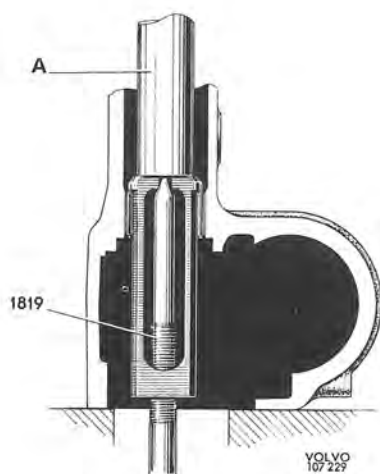
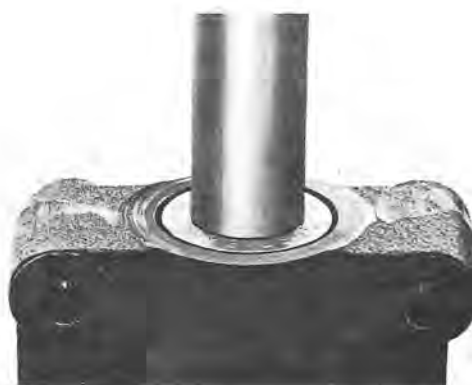

Fig. 6-67. Removing needle bearing
Fig. 6-68. Installing needle bearing
3. Check the needle bearings in the housing and cover for damage. Replace bearings if necessary. For removal use tool 1819 (Fig. 6-67) and for pressing in use drift 2995 and handle 1801 (Fig. 6-68).